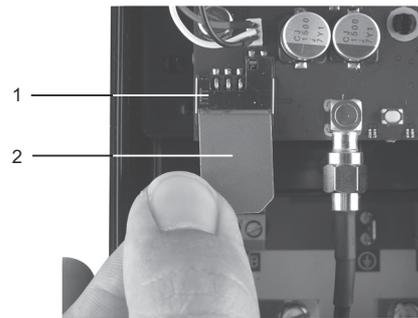

Fig. 11 Inserting the SIM card
3. Insert the SIM card into the CIM 250. See fig. 11.
**Note** The connectors on the SIM card must face inwards towards the CIM 250. See fig. 11.